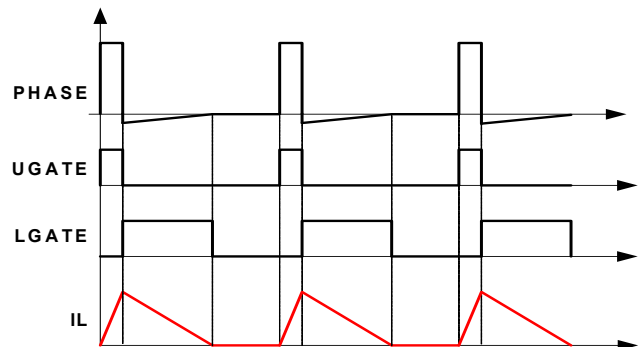

FIGURE 6. DIODE EMULATION OPERATION
ISL6353 can operate in diode emulation (DE) mode to improve light load efficiency. In DE mode, the low-side MOSFET conducts when the current is flowing from source to drain and does not allow reverse current, thus emulating a diode. As Figure 6 shows, when LGATE is on, the low-side MOSFET carries current, creating negative voltage on the phase node due to the voltage drop across the ON-resistance. The ISL6353 monitors the current by monitoring the phase node voltage. It turns off LGATE when the phase node voltage reaches zero to prevent the inductor current from reversing direction and creating unnecessary power loss.
If the load current is light enough, as Figure 6 shows, the inductor current will reach and stay at zero before the next phase node pulse, and the regulator is in discontinuous conduction mode (DCM). If the load current is heavy enough, the inductor current will never reach 0A, and the regulator is in CCM although the controller is in DE mode.